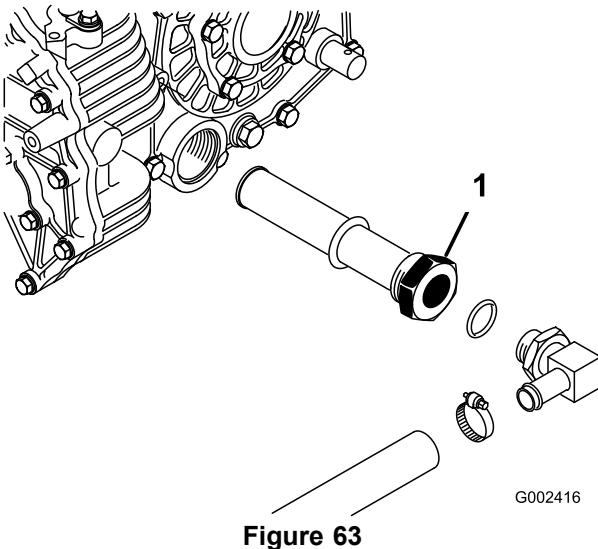

Figure 63
3. Note the orientation of the hydraulic hose and 90 degree fitting connected to the strainer on the side of the reservoir (Figure 63). Remove the hydraulic hose and 90 degree fitting.